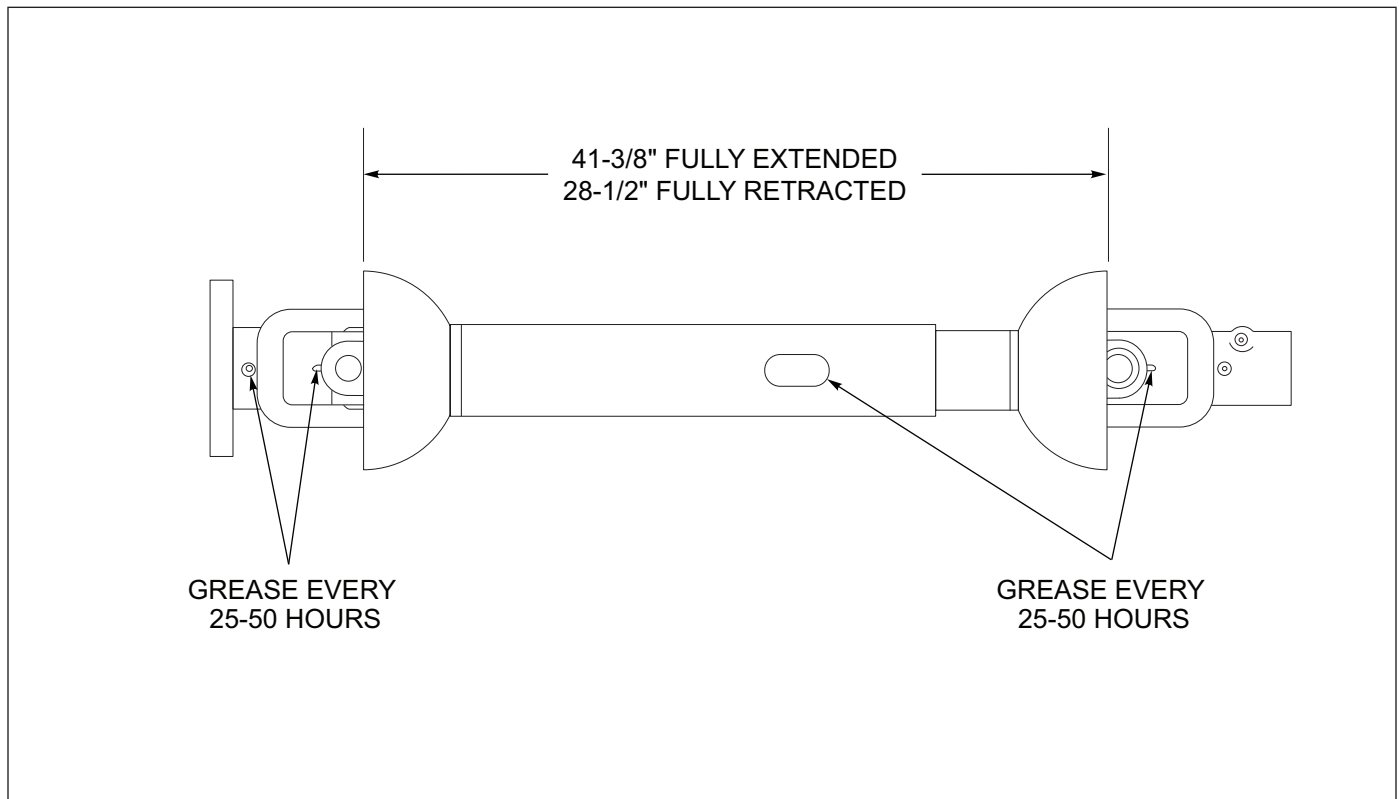

Figure 4-3: Drive Shaft Lubrication
3. Lubricate the Drive Shaft with a good grade of Lithium Soap Base Grease every 25 to 50 hours of operation *See Figure 4-3*. Remove the male end of the drive shaft and pack tube with a generous amount of grease. The drive shaft has four grease fittings.